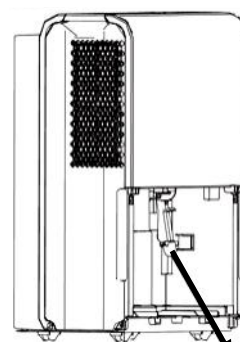
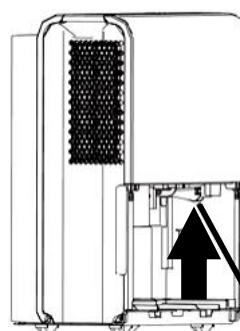

Fig. 5
Fig. 6
- If the pump filter drops when you remove the bucket (see Fig.5), you must reinstall the pump filter properly to the unit before replacing the drain bucket into the unit (see Fig.6).